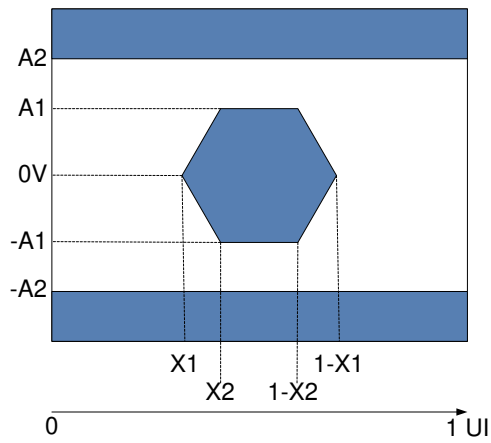

Figure 6-11. HSSI Eye Characteristics
- (1) All power supply connections are required to operate the DMD: V_{DD}, V_{D_{DA}}, V_{OFFSET}, V_{BIAS}, and V_{RESET}. All V_{SS} connections are required to operate the DMD.
- (2) All voltage values are with respect to the ground pins (V_{SS}).
- (3) To prevent excess current, the supply voltage delta | V_{D_{DA}} – V_{DD} | must be less than specified limit.
- (4) To prevent excess current, the supply voltage delta | V_{BIAS} – V_{OFFSET} | must be less than specified limit.
- (5) Supply power dissipation based on 3 global resets in 200 μs.
- (6) LVC MOS input specifications are for pin DMD_DEN_ARSTZ.
- (7) LVC MOS output specification is for pins LS_RDATA_A and LS_RDATA_B.
- (8) Refer to Figure 6-11, Receiver Eye Mask (1e-12 BER).
- (9) Defined in Recommended Operating Conditions.